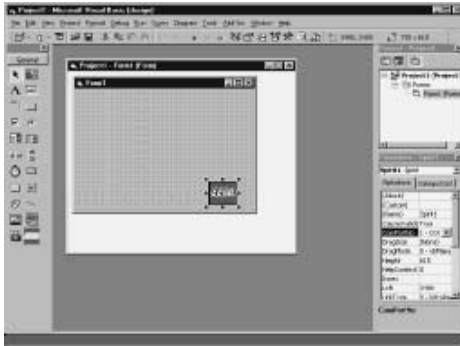

FIGURE 14.1 The test form in Visual Basic, with the *spirit.ocx* control added.
5. For ease of use, make the LEGO icon about a quarter-inch square and place it in the lower-right corner, as shown in Fig. 14.1.